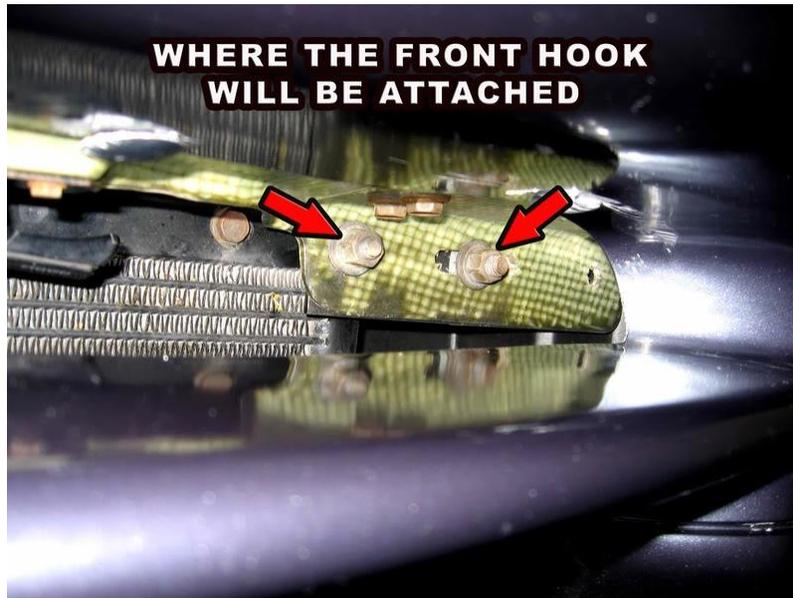

Figure 1
- 1.) Using a 15mm socket on a 8" extension with a 3/8" drive ratchet loosen and remove the (2) hex nuts located on the Driver's Side front of the car. These nuts are visible by looking thru the front fascia, see figure 1. Use caution as not to damage the paint on your car.